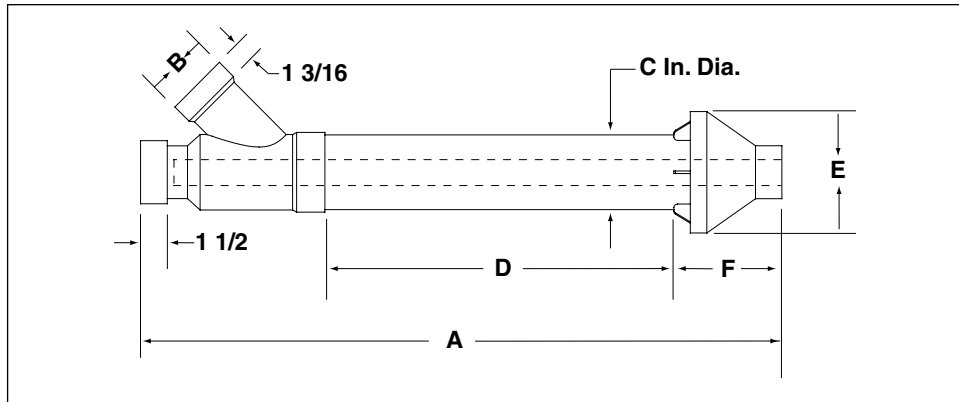
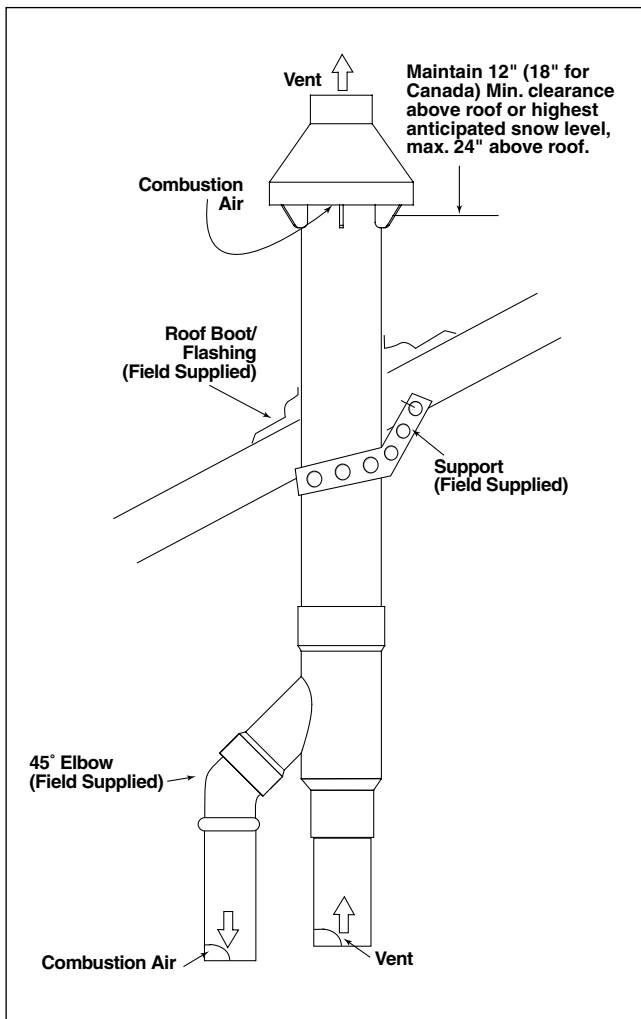

Figure 2. Dimensions
Figure 3. Roof Installation
4. Install cemented Y concentric fitting and pipe assembly through structure's hole and field supplied roof boot/flashing (See Figure 3).
5. Secure assembly to roof structure as shown in Figure 3 using field supplied metal strapping or equivalent support material. NOTE: Ensure termination height is above the roof surface or anticipated snow level (12 inches in U.S.A. or 18 inches in Canada). If the assembly is too short to meet the height requirement, the 2 pipes supplied in the kit may be replaced by using the same diameter, field supplied SDR-26 PVC (D2241) pipe. Do not expand dimension "D" more than 60 inches (See Figure 2).
**NOTE:** If assembly needs to be extended, the 2 pipes supplied in the kit may be replaced by using the same diameter, field supplied SDR-26 PVC (D2241) pipe. Do not expand dimension "D" more than 60 inches (See Figure 2).